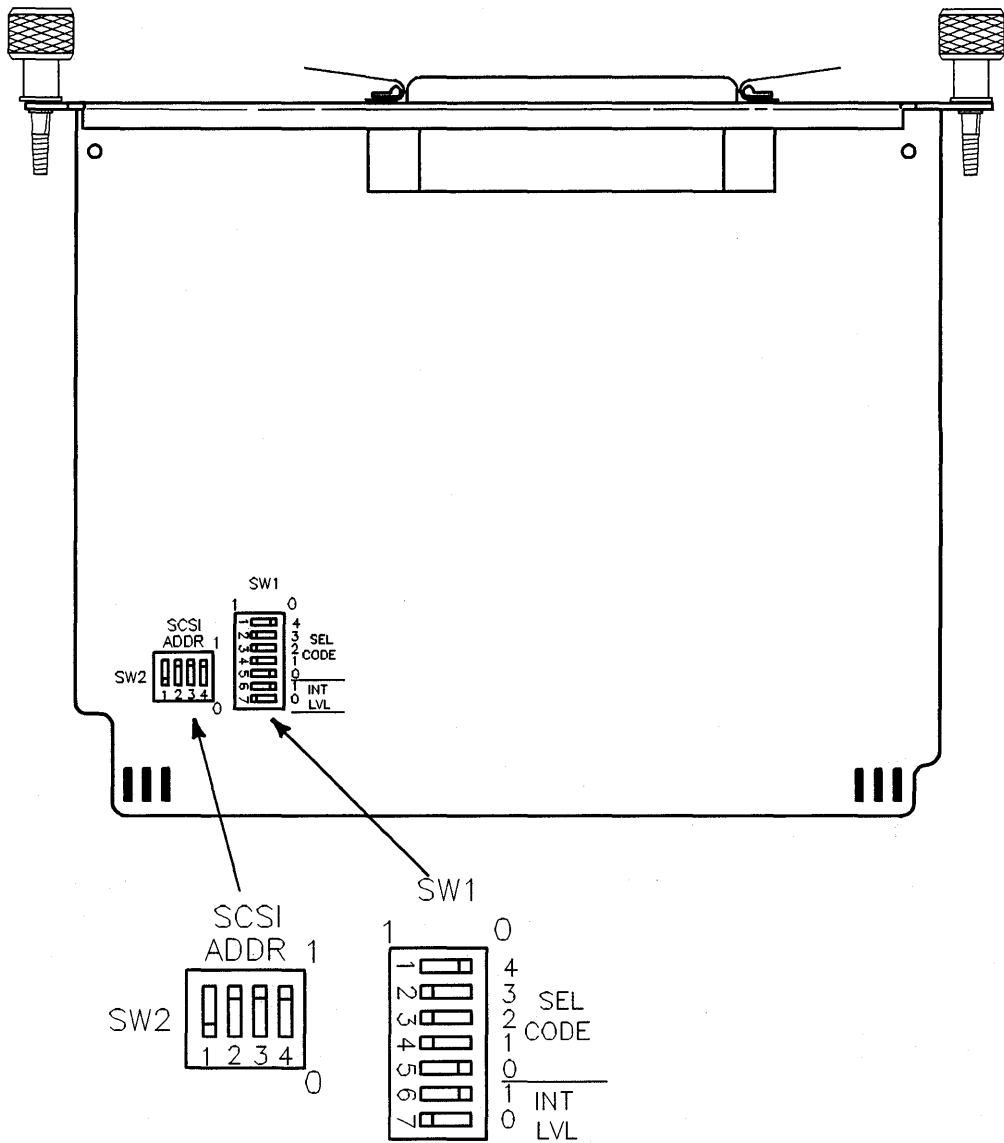

Figure 10-12. HP 98658A SCSI Interface Card Configuration Switch Locations
The HP 98658A SCSI Interface Card's configuration switches are shown in Figure 10-12.
2. Find the group of switches labeled SW1 by referring to Figure 10-12. Switches 1 through 5 in this group determine the select code.
1. Find the group of switches labeled SW1 by referring to Figure 10-12. Switches 6 and 7 in this group determine the interrupt level.
1. Find the group of switches labeled SW2 by referring to Figure 10-12. Switches 2, 3, and 4 set the bus address.
1. Find the group of switches labeled SW1 by referring to Figure 10-12. Switch 1 in this group is the PARity switch.